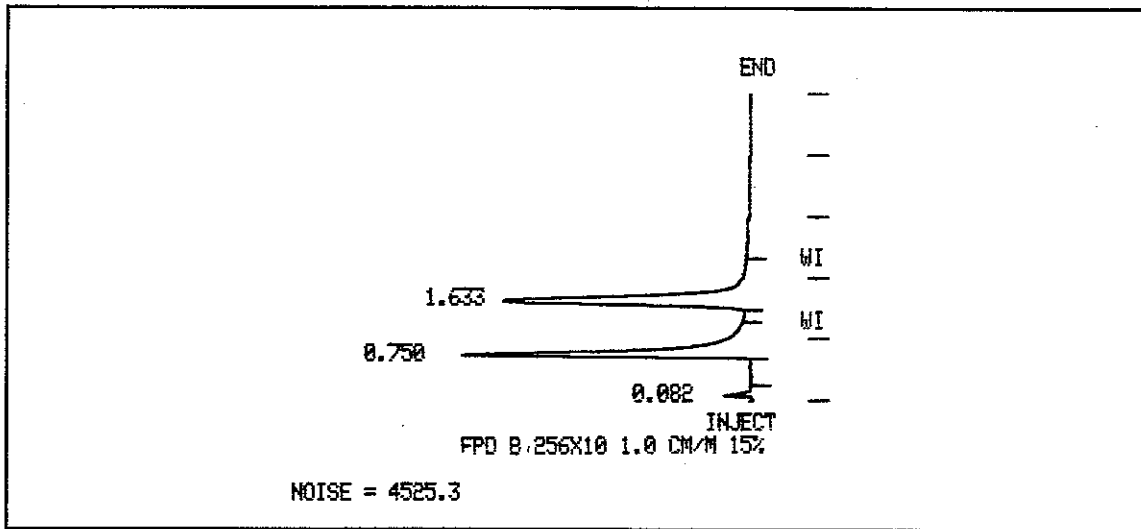

Figure 17a Packed Column (FPD Phosphorus)
6. Compare the test chromatogram for peak separation, peak heights, and retention times with the chromatogram in Figures 17a-17c.